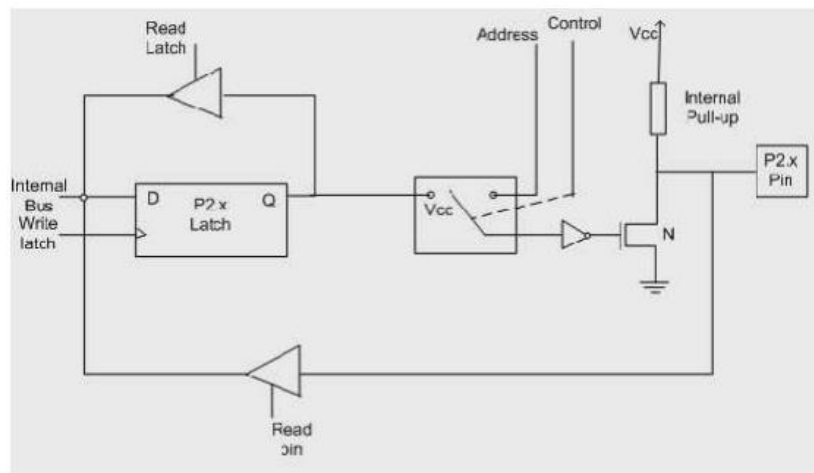

Fig 1.7: Port 2 Structure
1. Port-2 has 8-pins (P2.0-P2.7) . The structure of a port-2 pin is shown in Fig 1.7